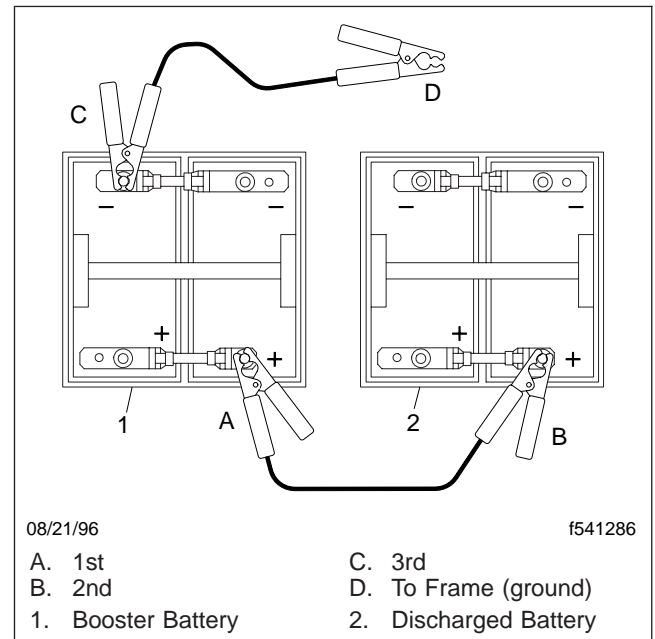

Fig. 14.4, Jumper Connections
3. Connect an end of one jumper cable to the positive terminal of the booster battery (or jump-start post if so equipped), and connect the other end of the cable to the positive terminal of the discharged battery (or jump-start post if so equipped). See Fig. 14.4.